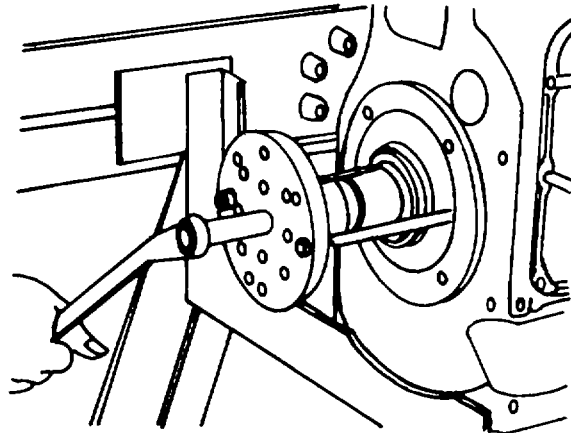

Figure 5-13. Remove the Rear End Shield
- f. Disassemble the screws in the rear end shield and remove the end shield with the aid of puller device No. 003-0672 (figure 5-13).